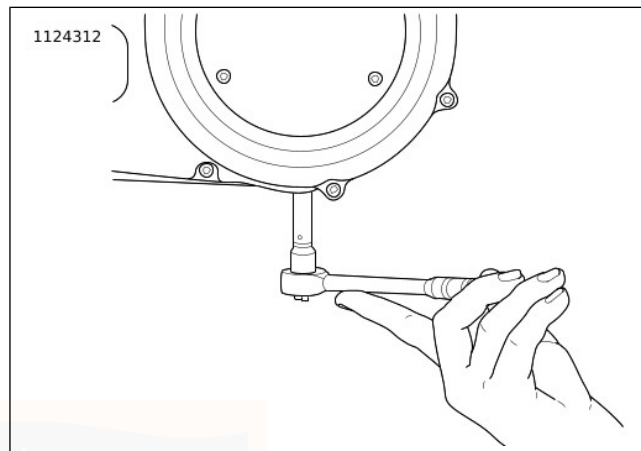

Figure 71. Removal/Installation of Chaincase Drain Plug
3. See Figure 71. Drain primary chaincase.